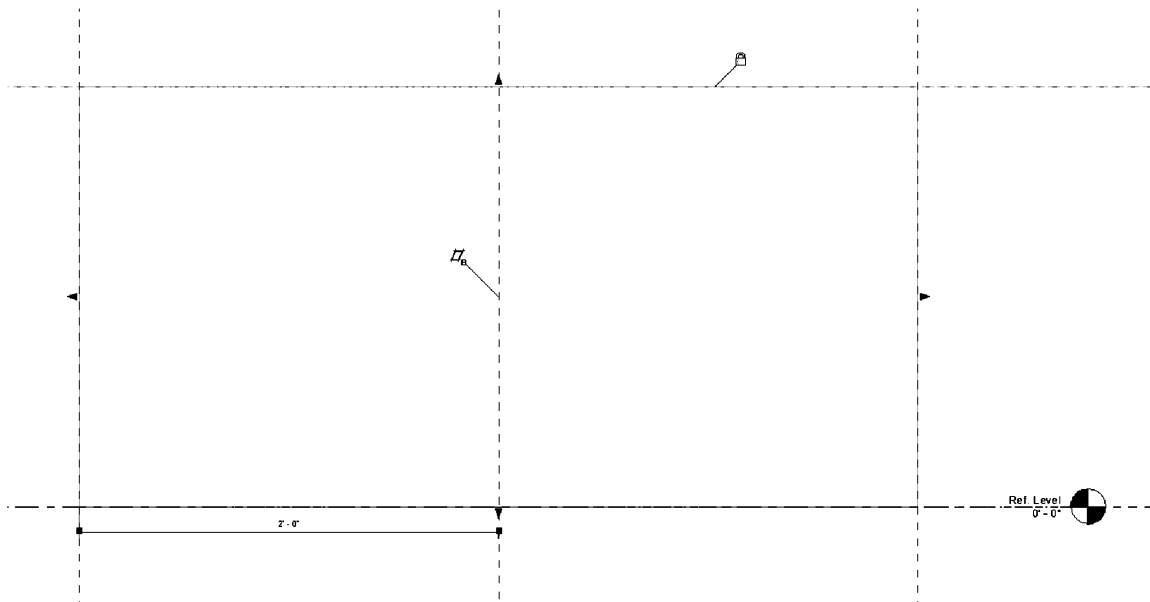

FIGURE 18-2.15 3D geometry selected, edit grips revealed
26. **Select the 3D box** to reveal the edit grips (Figure 18-2.15).